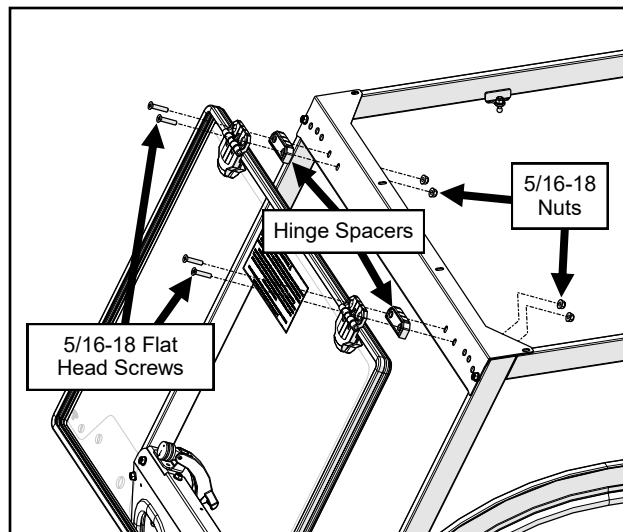

Fig. 8.2 (Attach Windshield)
- 8.2 With assistance, set the windshield up to the side frames and secure it to the windshield support using the hinge spacers and hardware. See Figure 8.2. Leave hardware loose.